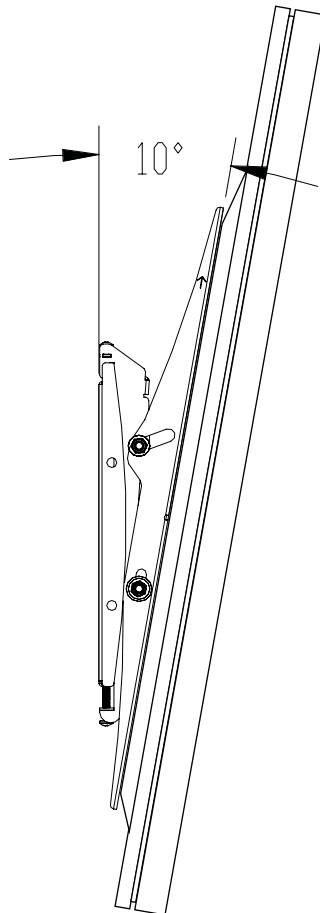

Figure 37. Adjusting the Tilt
3. Using the upper hand, gently pull the top of the flat-panel towards you while the lower hand gently pushes the bottom of the flat-panel away from you (Figure 37).
3. Using the upper hand, gently push the top of the flat-panel towards the wall while the lower hand gently pulls the bottom of the flat-panel away from the wall (Figure 37).